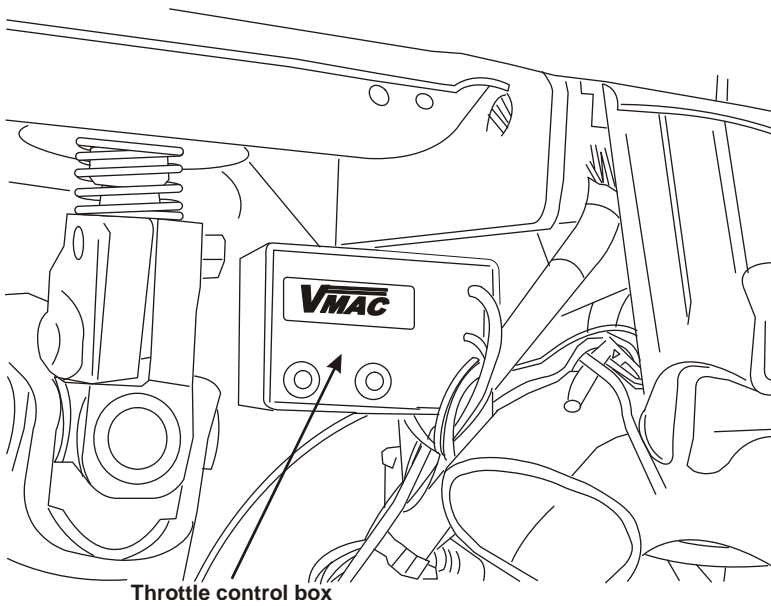

Figure 4.3
- Mount the throttle control box under the dash to the right of the steering column (Figure 4.3) using nylon ties.